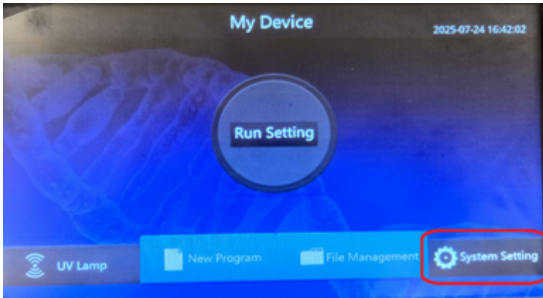

Figure 18: Main screen interface of the CleanXtract 96, with the system setting highlighted in red.
3. Select "System Setting" on the bottom right corner of the main screen interface, as shown in Figure 18.